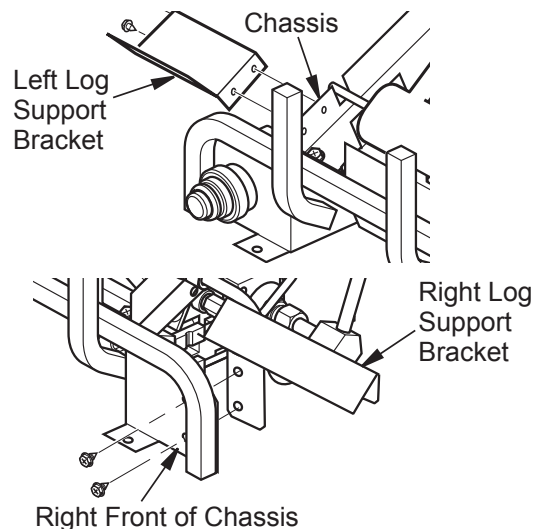

Figure 23- Installing Log Support Brackets
1. Install left bracket to left side of chassis using 2 screws provided (see *Figure 23*).
2. Install right bracket to right front of chassis using 2 screws provided (see *Figure 23*). This bracket will also be used as remote control bracket if remote is installed.